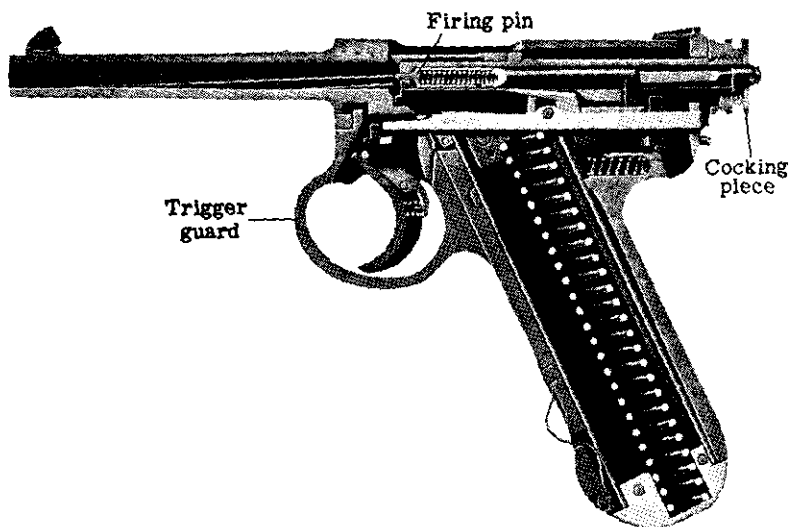

Figure 10.—Cross section of Model 14 (1925) 8-mm pistol.
(1) *General*.—The Model 14 (1925) 8-mm pistol is a semiautomatic, recoil-operated, magazine-fed hand weapon (fig. 10). There is no slide. The barrel is